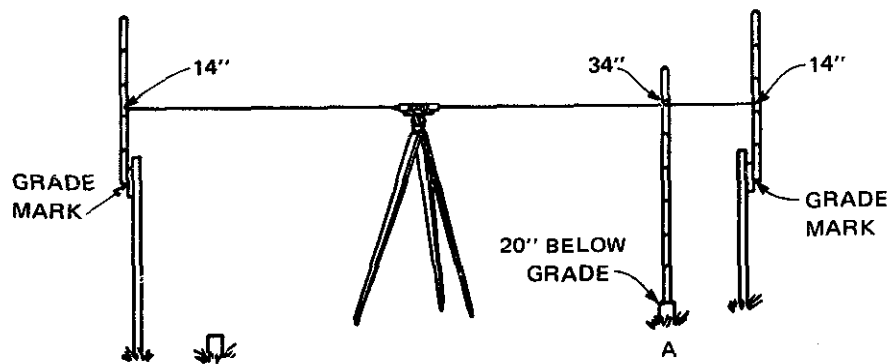

Fig. 5-34 Sighting for setting a grade mark
2. Sight the rule on A as shown in figure 5-34. If this reading should be 34 inches, have the rule held at each batter board so that the 14-inch mark comes on the line of sight.